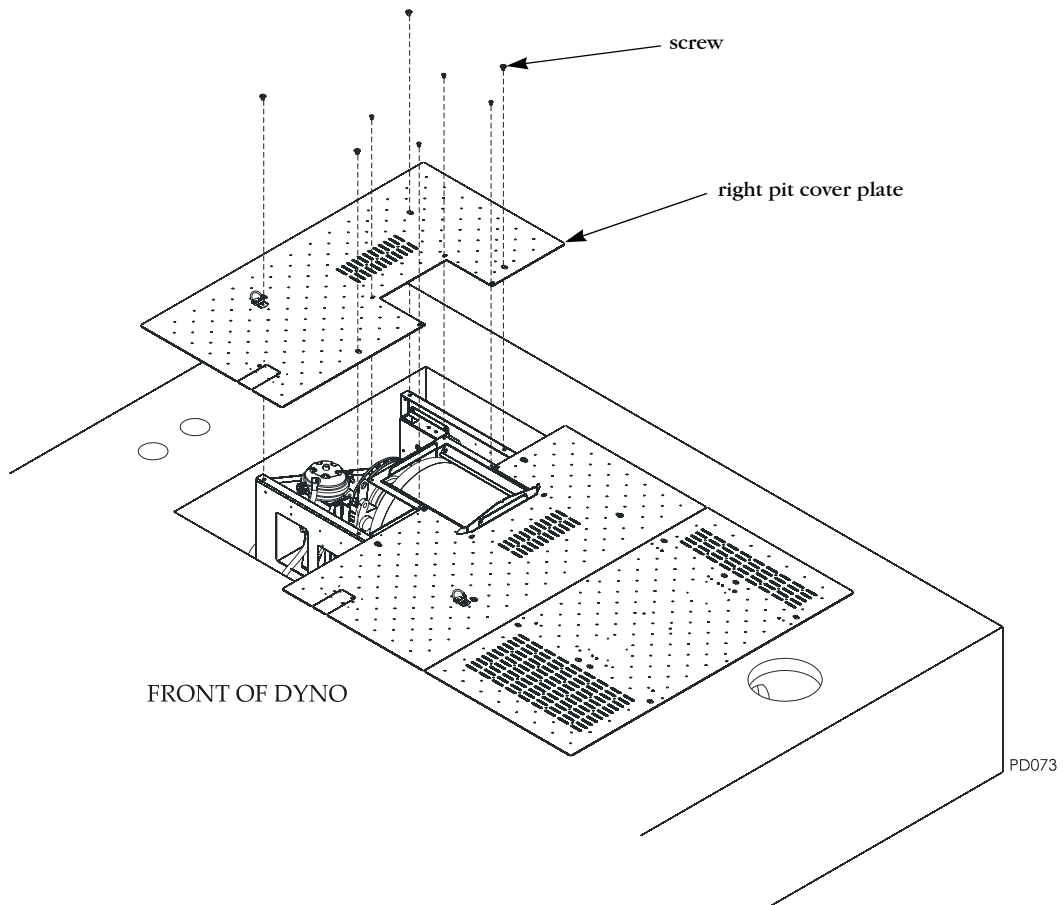

Figure 26: Securing the Right Pit Cover Plate to the Dyno
- 2 Secure the right pit cover plate to the dyno using the eight 1/4-20 x 5/8-inch pan head screws removed earlier. Refer to Figure 26 on page 26.